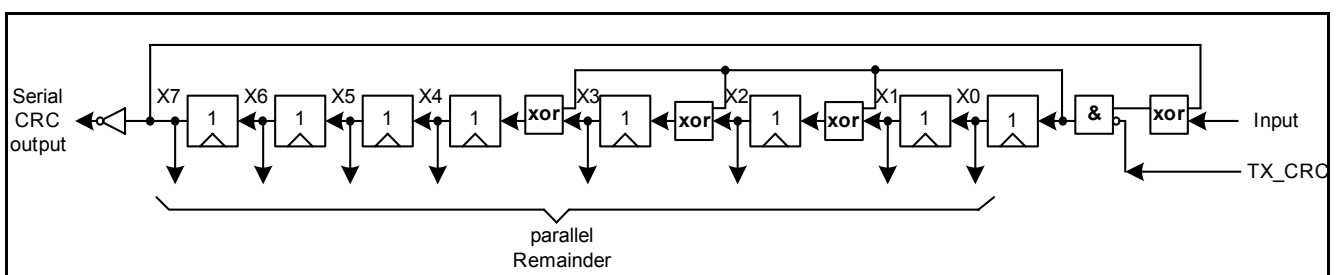

Figure 20 Fast CRC Polynomial Division Circuit
- Generator-Polynomial: $X^8 + X^4 + X^3 + X^2 + 1$, but for the CRC generation the fast-CRC generation circuit is used (see Figure 20)